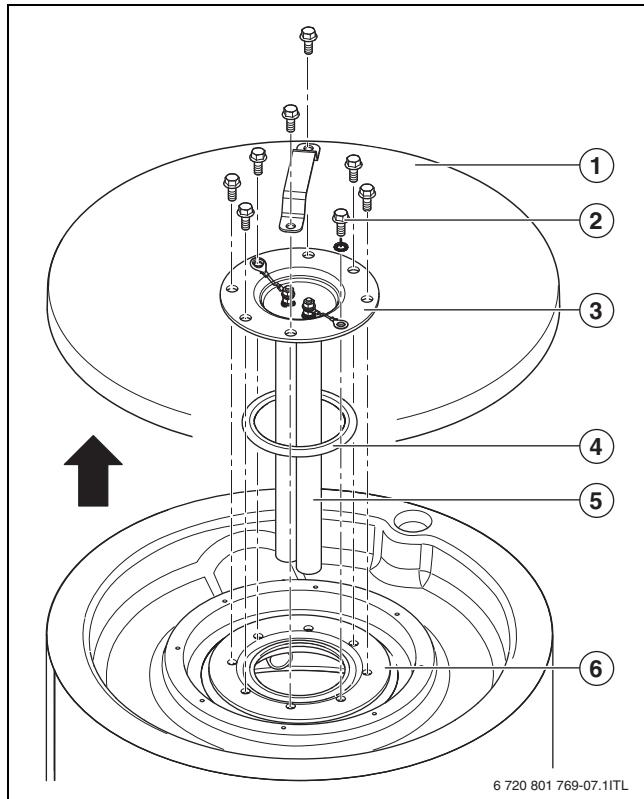
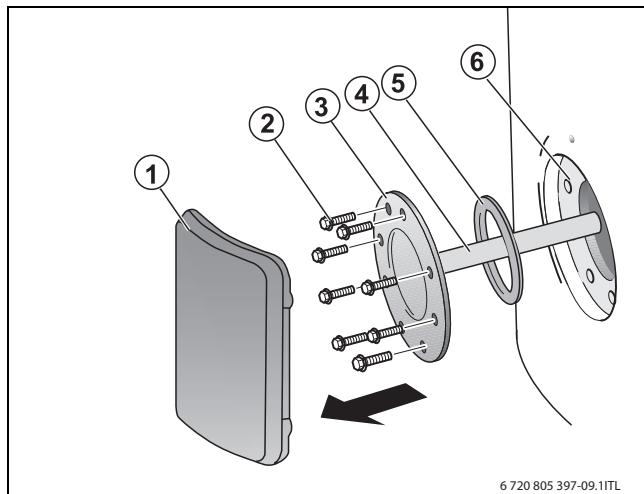

Fig. 17 Removing the cleanout cover SU54/5
Fig. 18 Removing the cleanout cover SU80/5, SU100/5
- Remove the PS top cover (SU54/5) (→ Fig. 17, page 14, [1]) or cleanout cover shroud (SU80/5, SU100/5) (→ Fig. 18, page 14, [1]) from the tank.
- Remove the cleanout cover (→ Fig. 17, page 14), if not yet removed.